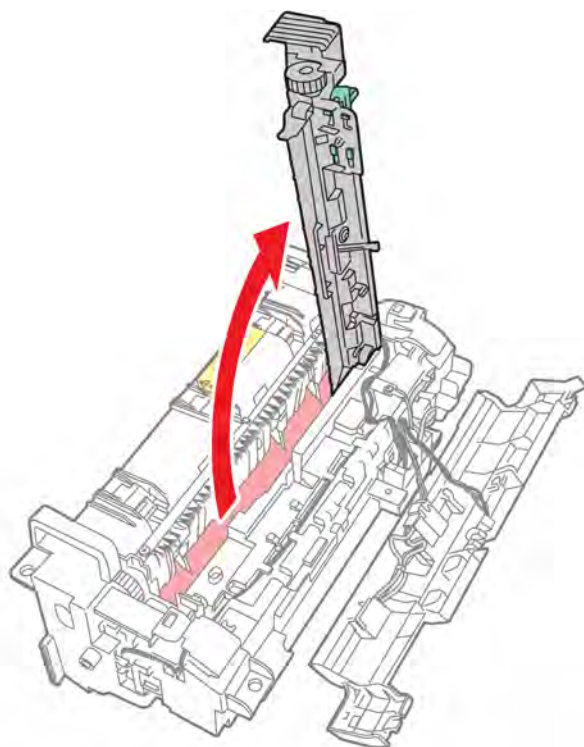

Figure 3 Open the lower exit guide
5. Open the lower exit guide, Figure 3.